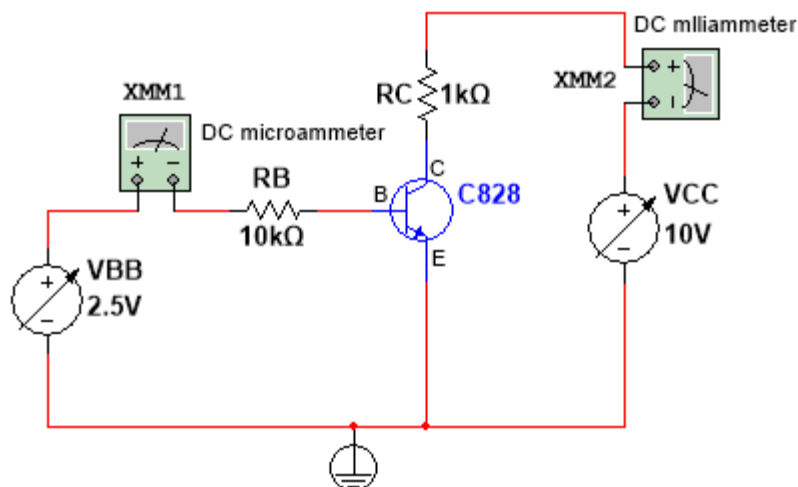

Figure 5: Circuit diagram for the determination of CE transistor characteristics
Besides, they must implement the circuit (as given in Figure 5) using a MultiSIM simulator. Observe the input-output wave shapes through simulation with parameter (various I_B and V_{CE}) variations and take snapshots using the snipping tool. Measure the values of different key parameters and fill up the tables (Tables 1 and 2) based on the simulation results. For simulation, use a 2N2222 or a C828 transistor.
3. Connect the circuit as shown in Fig. 5. Connect the microammeter and milliammeter as shown in Fig. 5.
7. For input characteristics, now vary the DC supply voltage, V_{BB} , and calculate the base current, I_B using equation (1).
2. Connect the circuit as shown in Fig. 5.
3. Connect the multimeter (voltmeter mode) to measure the base resistance voltage (V_B) and collector resistance voltage (V_C). Connect the microammeter and milliammeter as shown in Fig. 5.
6. Vary the collector supply voltage, V_{CC} by rotating the voltage control nob of supply voltage in steps of 0.2 V from 0 V to +1 V and then in steps of 2 V from 1 V to +16 V, and calculate the collector current, I_C using equation (2). Take note of this collector current value from the milliammeter reading.